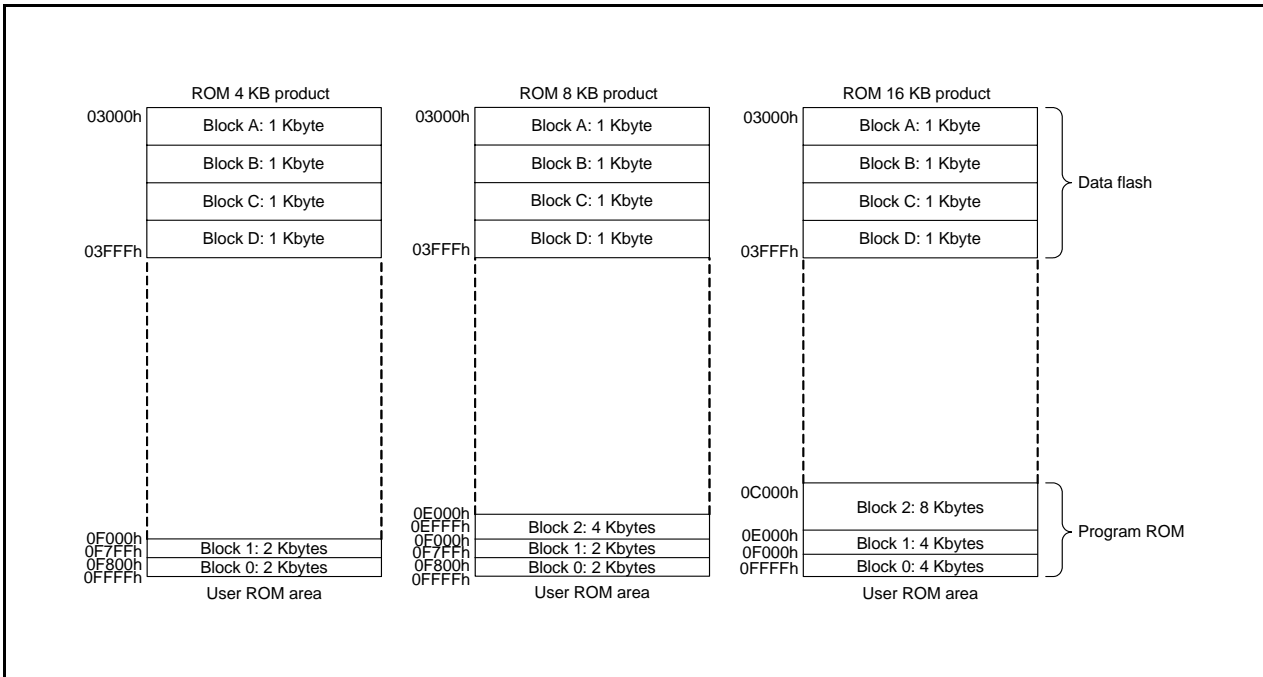

Figure 30.1 R8C/32A Group Flash Memory Block Diagram
- The number of blocks and block division vary with the MCU. Refer to **Figure 30.1 R8C/32A Group Flash Memory Block Diagram** for details.
Figure 30.1 show the R8C/32A Group Flash Memory Block Diagrams.